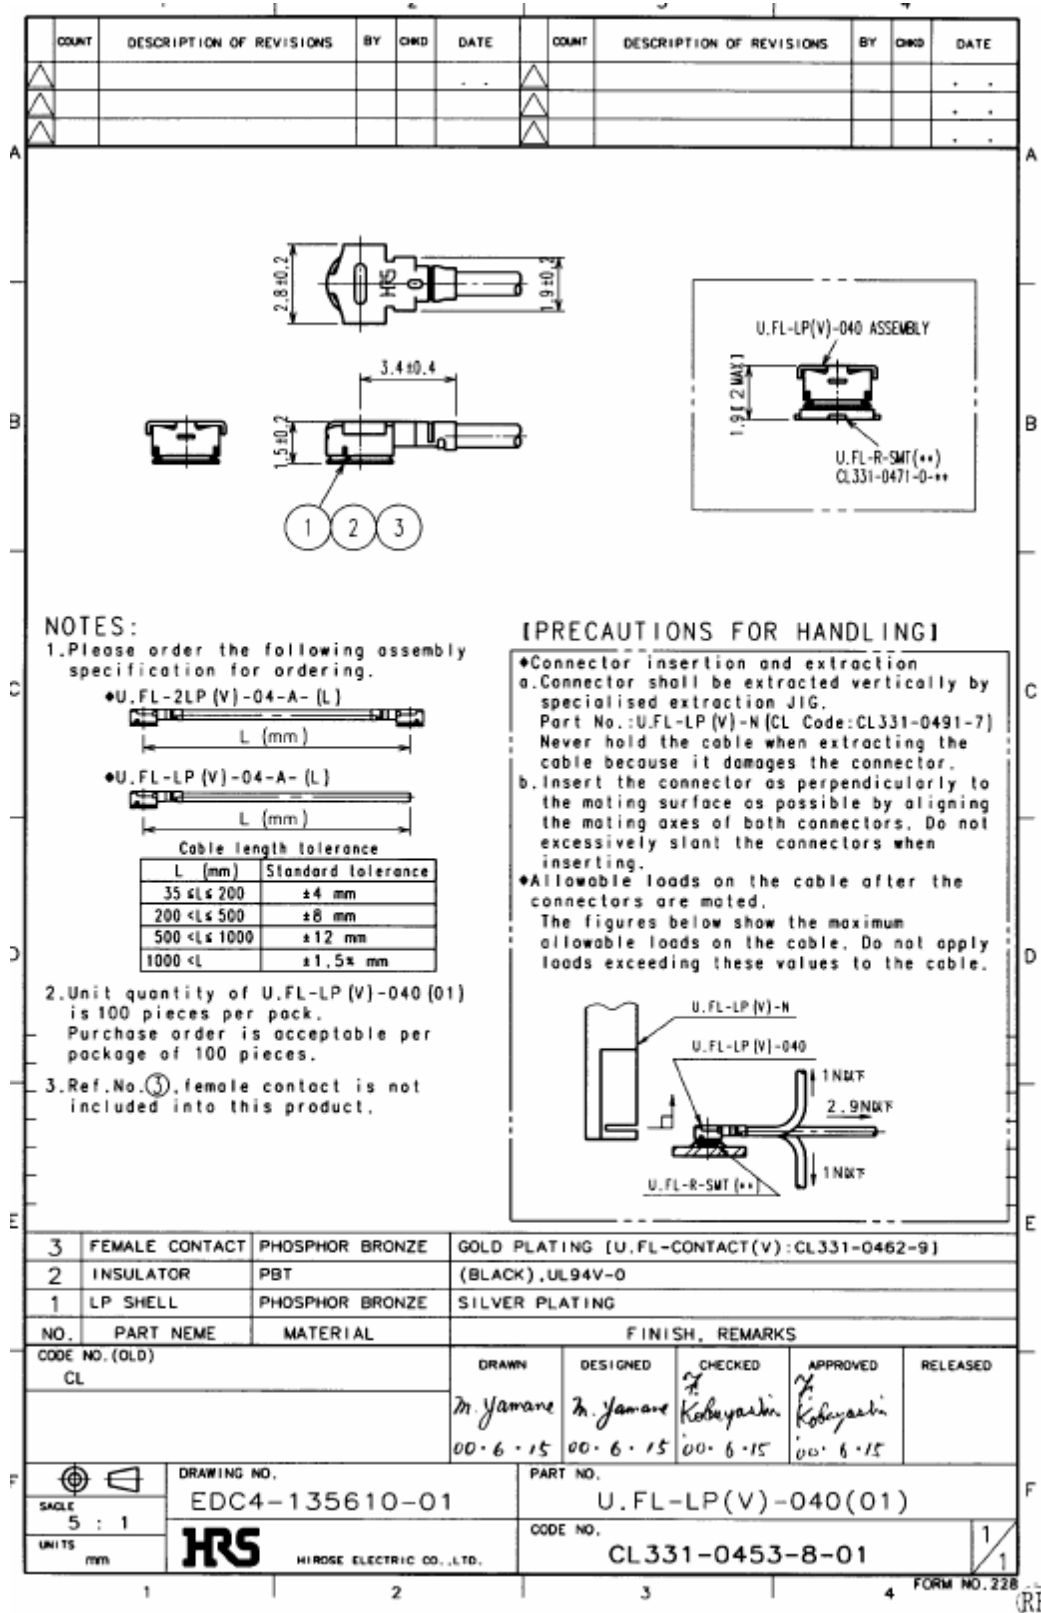

Figure 33: Specifications of U.FL-LP-(V)-040(01) plug
In addition to the connectors illustrated above, the U.FL-LP-(V)-040(01) version is offered as an extremely space saving solution. This plug is intended for use with extra fine cable (up to  $\varnothing 0.81$  mm) and minimizes the mating height to 2 mm. See Figure 33 which shows the Hirose datasheet.